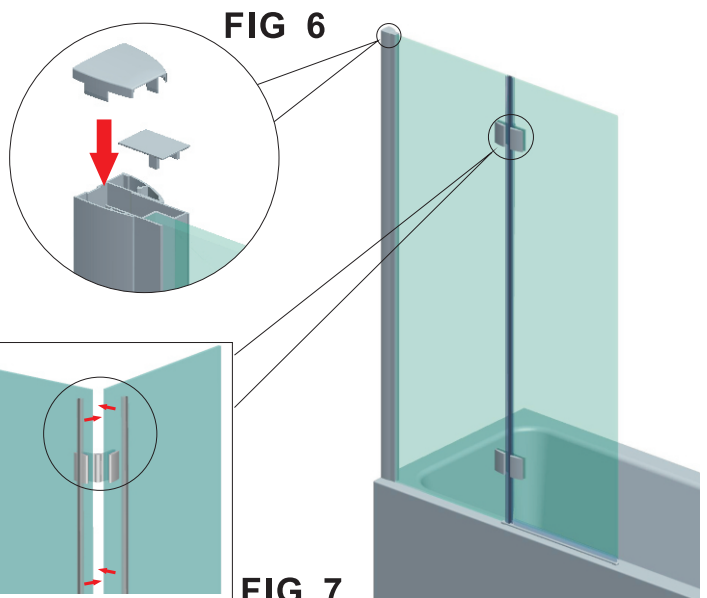

FIG 6
6. Fix the top cover cap (B08062) to upright profile and top cover cap (B08060) to wall profile (M7003). **Fig 6.**